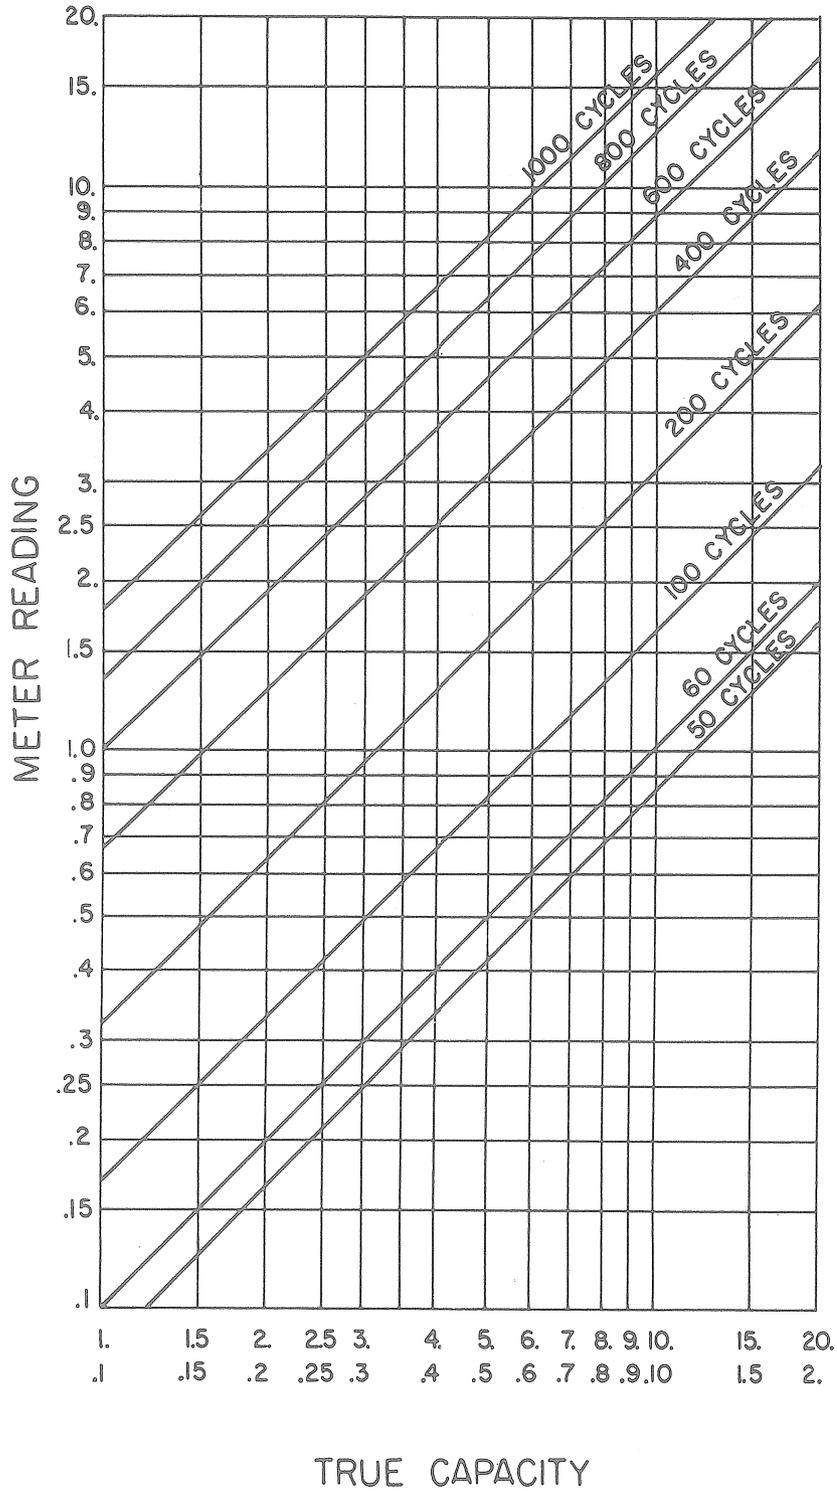

Figure 4-4. Conversion Chart for Capacity Measurements at Frequencies Other Than 60 Cycles
(a) Connect the equipment to a 115 volt ac power source. A line frequency of 60 cycles is required if direct meter readings are to be obtained. For other line frequencies it will be necessary to apply a corrective factor to the meter reading by using the conversion chart figure 4-4.
- (f) If the power supply frequency is 60 cycles the meter will indicate the value of the capacitor directly in microfarads. For other power line frequencies the meter reading must be corrected using the Conversion Chart for Capacity Measurements at Frequencies Other Than 60 Cycles, Figure 4-4.
- (6) MILS. Current measurements may be made from 0 to 500 milliamperes dc in 6 ranges.
- (7) INDUCTANCE: In addition to the regular multimeter measurements it is possible to make inductance measurements of choke coils with the TV-3C/U equipment.
- (a) Make same preliminary adjustments and switch settings as for capacity measurements. (See paragraph 4b(5) of this section).